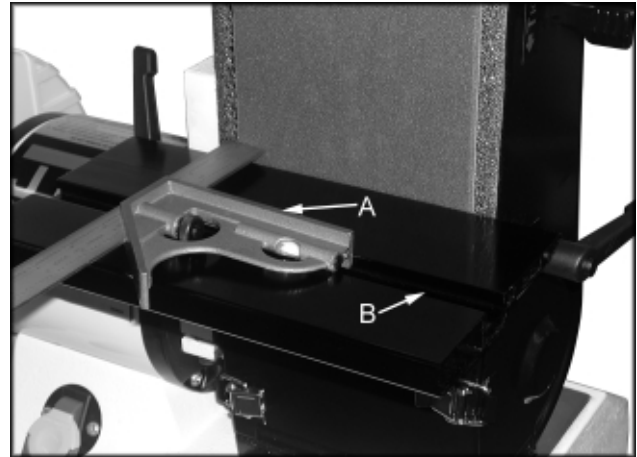

Fig. 5
3. Place a combination square (A, Fig. 5) in the miter gauge slot (B, Fig. 5) and check the distance from the slot to the edge of the sanding belt. Slide the square along the slot to the other end of the belt and check the distance. The distances should be equal to ensure that the miter gauge travels parallel to the belt. Loosen the three socket head cap screws at the bottom of the table, which hold the table and trunnions in place to adjust the distance.